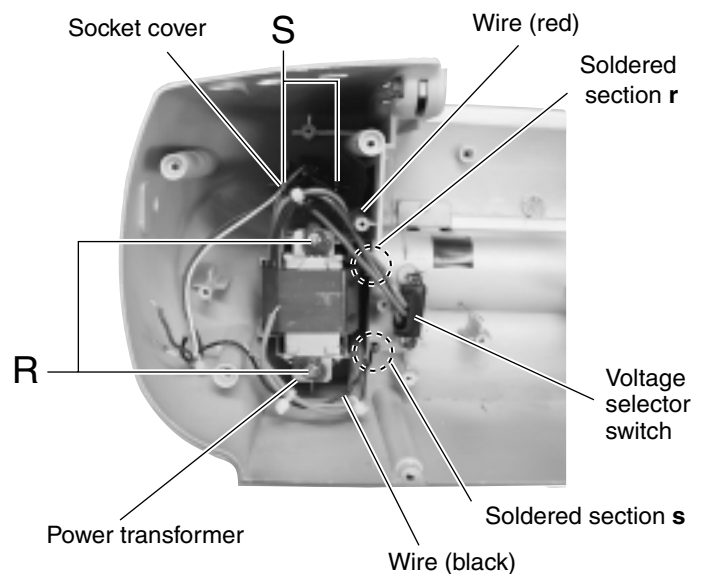

Fig.20
5. Remove the two screws **R** retaining the power transformer. (See Fig.20.)
6. Remove the two screws **S** retaining the socket cover. (See Fig.20.)